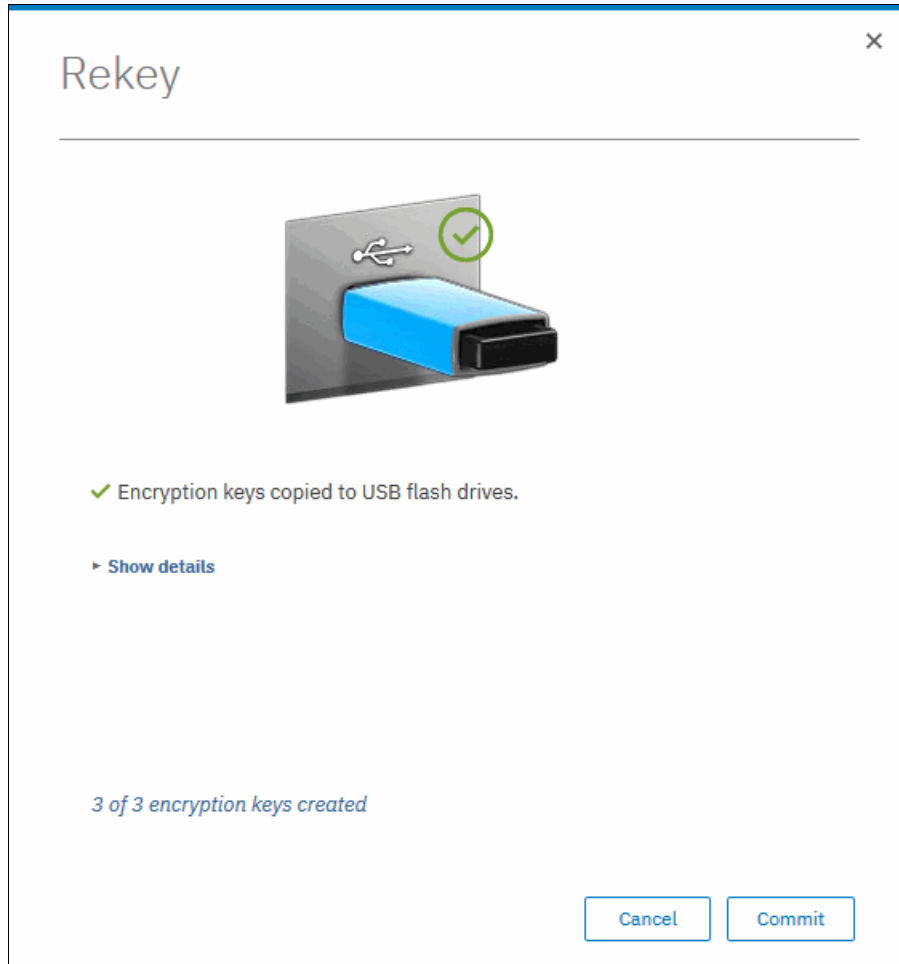

Figure 13-88 Writing new keys to USB flash drives
3. If the system detects a validated USB flash drive and at least three available USB flash drives, new encryption keys are automatically copied on the USB flash drives, as shown in Figure 13-88 on page 794. Click **Commit** to finalize the rekey operation.